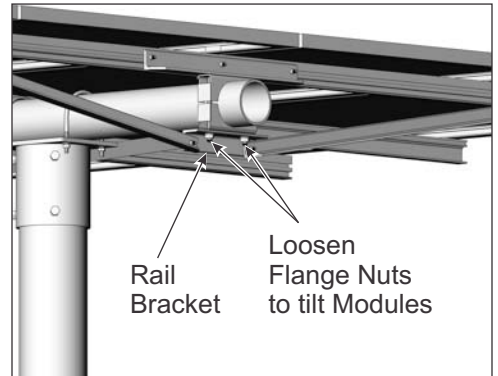

Figure 8-1: Loosening Flange Nuts
- A. Gently loosen the 1/2 inch flange nuts on carriage bolts just enough to allow each Rail Set to rotate around the horizontal pipe, allowing the PV Modules to tilt. (See Figure 8-1)